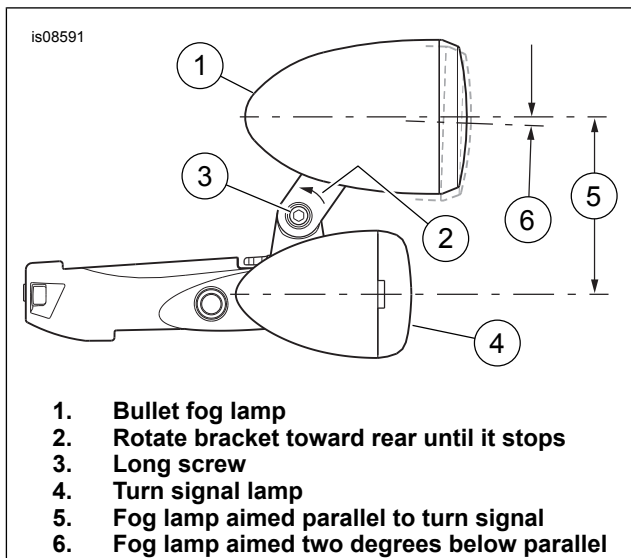
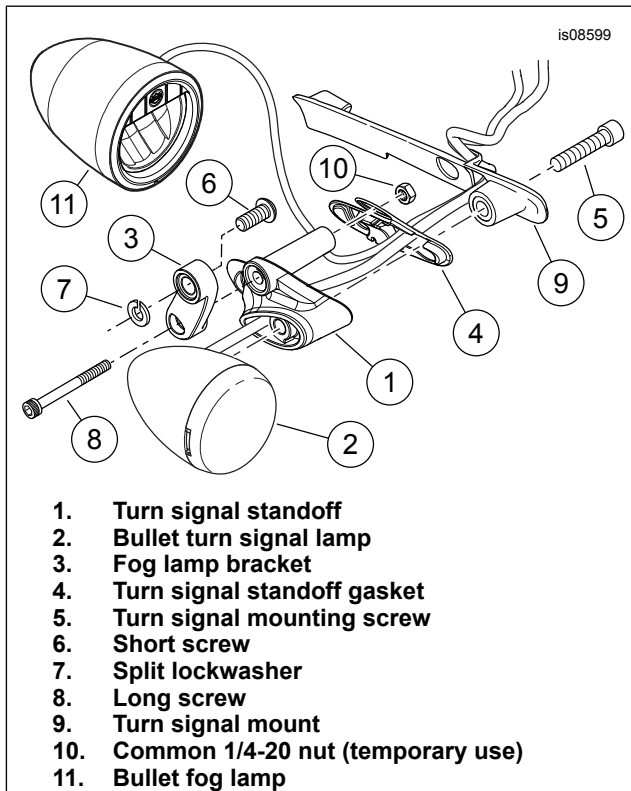

Figure 3. Fog Lamp Alignment
Figure 4. Temporary Lamp Assembly (Right Side Shown)
See Figure 3. Due to limited access to mounting screws, fog lamps (1) **MUST** be aligned before final installation.
1. See Figure 4. Get the correct-side turn signal standoff (1) and gasket (4) from **this** kit. Get the correct-side fog lamp (11) from **the LED Bullet Fog Lamp Kit**. Get the original equipment (OE) turn signal lamp (2), screw (5) and the correct-side turn signal mount (9) removed earlier.
5. Temporarily assemble the turn signal lamp (2), gasket (4), standoff (1) and mount (9) with screw (5). Tighten securely.
6. Get a fog lamp bracket (3), long screw (8) and a common 1/4-20 nut (10, not provided). Temporarily assemble the bracket to the standoff with the screw and nut. Rotate the fog lamp bracket toward the rear until it stops (see Figure 3, Item 2). Tighten screw and nut sufficiently to hold position.
7. See Figure 4. Get the short screw (6) and split lockwasher (7) from the kit .
8. Insert the screw through the fog lamp bracket (3) as shown. Place the lockwasher (7) into the counterbore in the bracket, over the screw threads. Apply a few drops of Loctite 243 - Blue to the **clean** screw threads. Thread the screw into the fog lamp, but do not fully tighten.
9. See Figure 3. Align the fog lamp (1) parallel to the turn signal lamp (4). Tighten the fog lamp screw per fog lamp kit instructions.
1. See Figure 4. Remove turn signal screw (5) and bracket (9) from one lamp and standoff assembly.